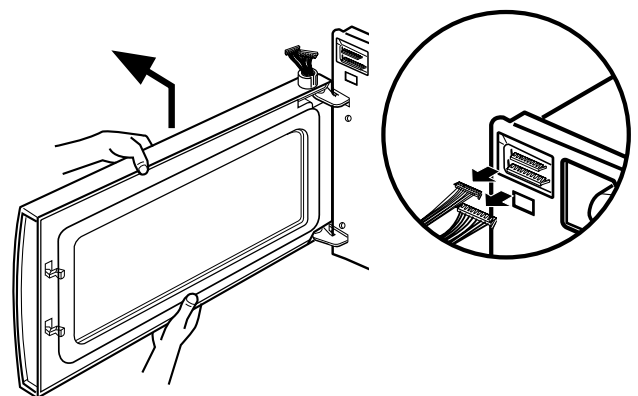

Figure 14
G. REMOVING DOOR (Figure 14)
- (1) Remove the vent grille by two screws securing it to the outcase loosening.
- (2) Disconnect two leadwires.
- (3) Lift up and draw the door.